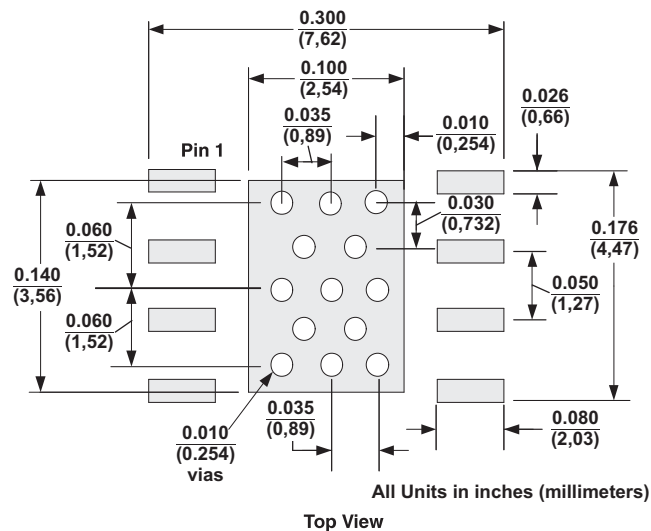

Figure 84. DDA PowerPAD PCB Etch and via Pattern
1. PCB with a top-side etch pattern is shown in Figure 84. There should be etch for the leads as well as etch for the thermal pad.